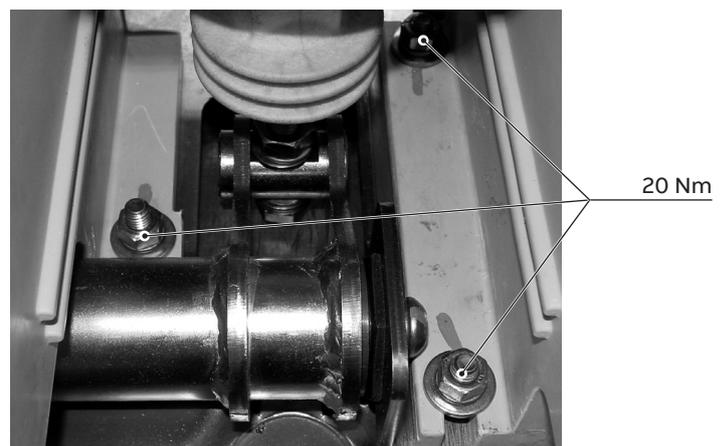

Fig. 12
- The nuts and screws are tightened in the factory and correct tightening is marked with a coloured sign. Further tightening operations during the operating life of the circuit breaker are not foreseen. However, if it should be necessary to tighten the nuts or screws again following any trips, the values indicated in fig. 12 must be respected.